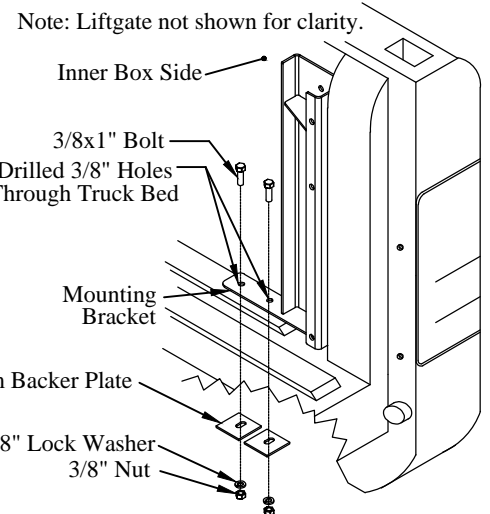

Figure 11: Mounting bracket and backer plates.
9. **Fasten** each bracket to the truck box using the supplied (Figure 11):
- (2) backer plates, (2) lock washers, and (2) hex nuts on the under-side.
10. **Drill** two (2) 3/8" holes into the truck inner box side using two holes in the bracket as a guide (Figure 11).